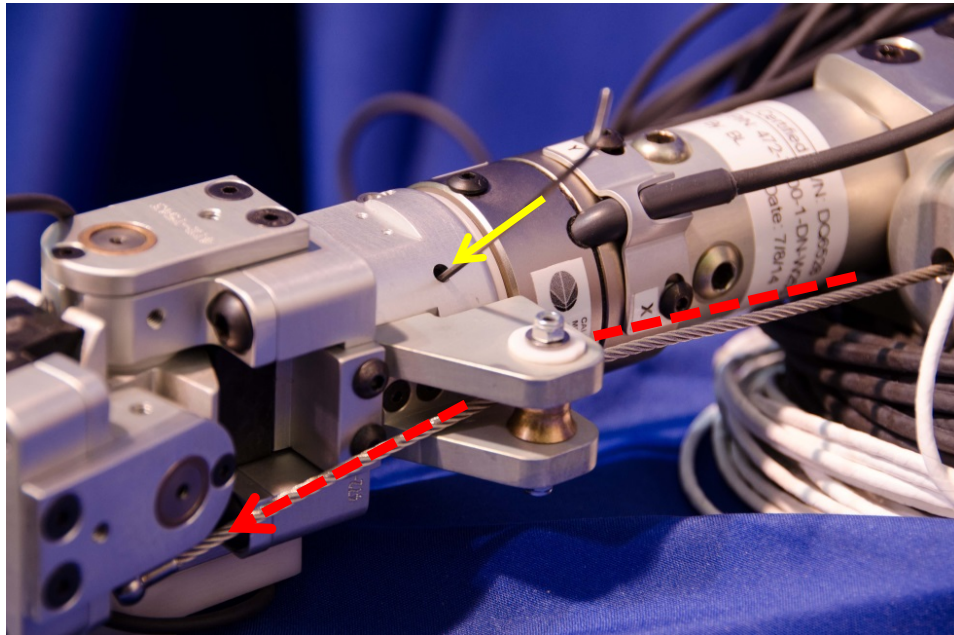

Figure 12-54. Insert Achilles cable through pulley
- 12.2.2.36 Insert the Achilles cable through the Achilles pulley bracket (Figure 12-54). Secure the potentiometer shaft by installing the M3 x 0.5 x 3 SHSS.